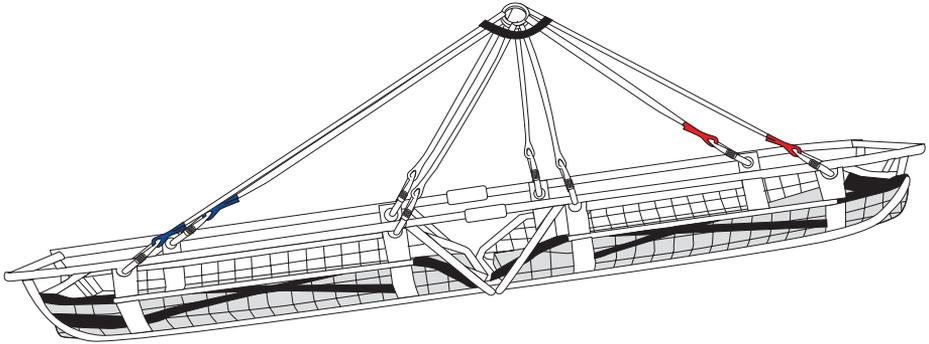

Fig.17
- a) Connect the hanging kit to the corresponding side holes on the stretcher, using the eight connectors (red, head side - blue, feet side) (Fig. 17),